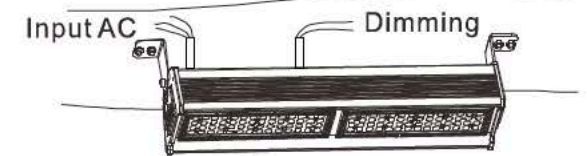
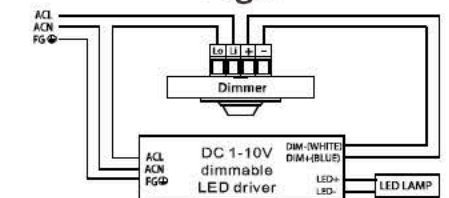

Fig.4
Fig6
3. If it is undimmable, please directly connect ACL( brown/black) /ACN ( blue/white) /FG. If it is dimmable, please follow the wiring steps following(Fig.6). Please do a good job of insulation and waterproof before adjusting lighting angle(Fig.4).